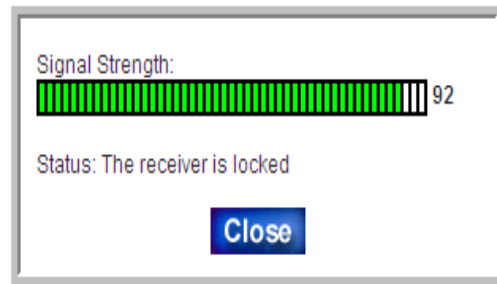

Figure 32: Signal strength
- To view a graphic representation of the current signal quality (Figure 32), click **Display Signal Strength**. Click **Close**.